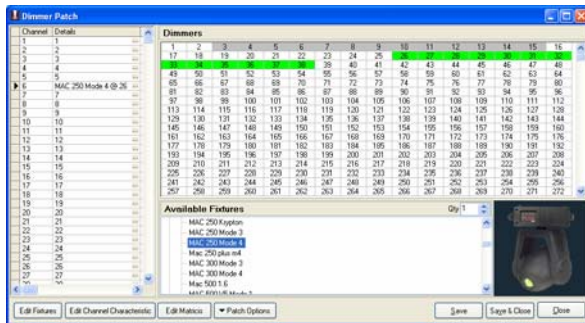

Figure 3: Dimmer Patching Window
- When you release the mouse button you will see that the details column of channel 6 now displayed “MAC 250 Mode 4 @ 26”. This shows us that a MAC 250 is patched with the starting address of 26. See Figure 3.